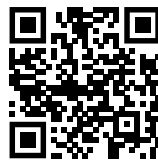

Fig. 84
- ▶ Open Liebherr SmartMonitoring Dashboard. (see Fig. 84)